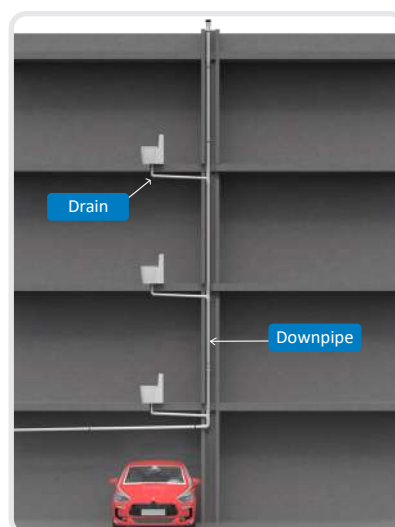

Figure 6. Primary ventilation diagram.
- An aeration valve should be installed (Figure 6).